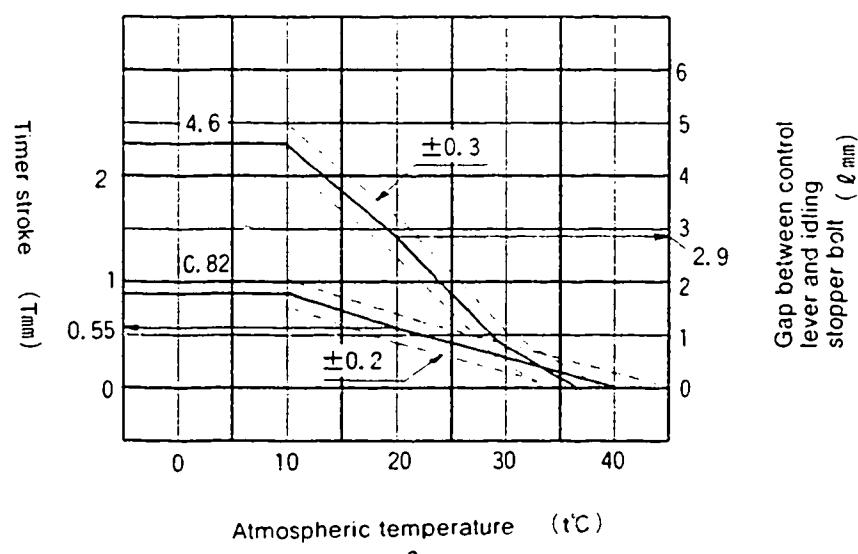

Fig. 2
1. Calculate the block gauge dimension $\ell \pm 0.05\text{mm}$ from Fig. 2 according to the atmospheric temperature at the time of adjustment.
Formula for calculating Fig. 2